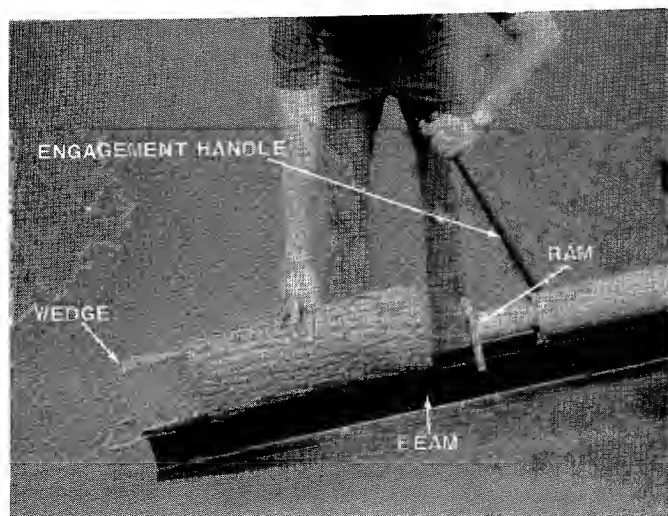

FIGURE 21
- D. Place log on beam and hold in place with right hand. See figure 21.